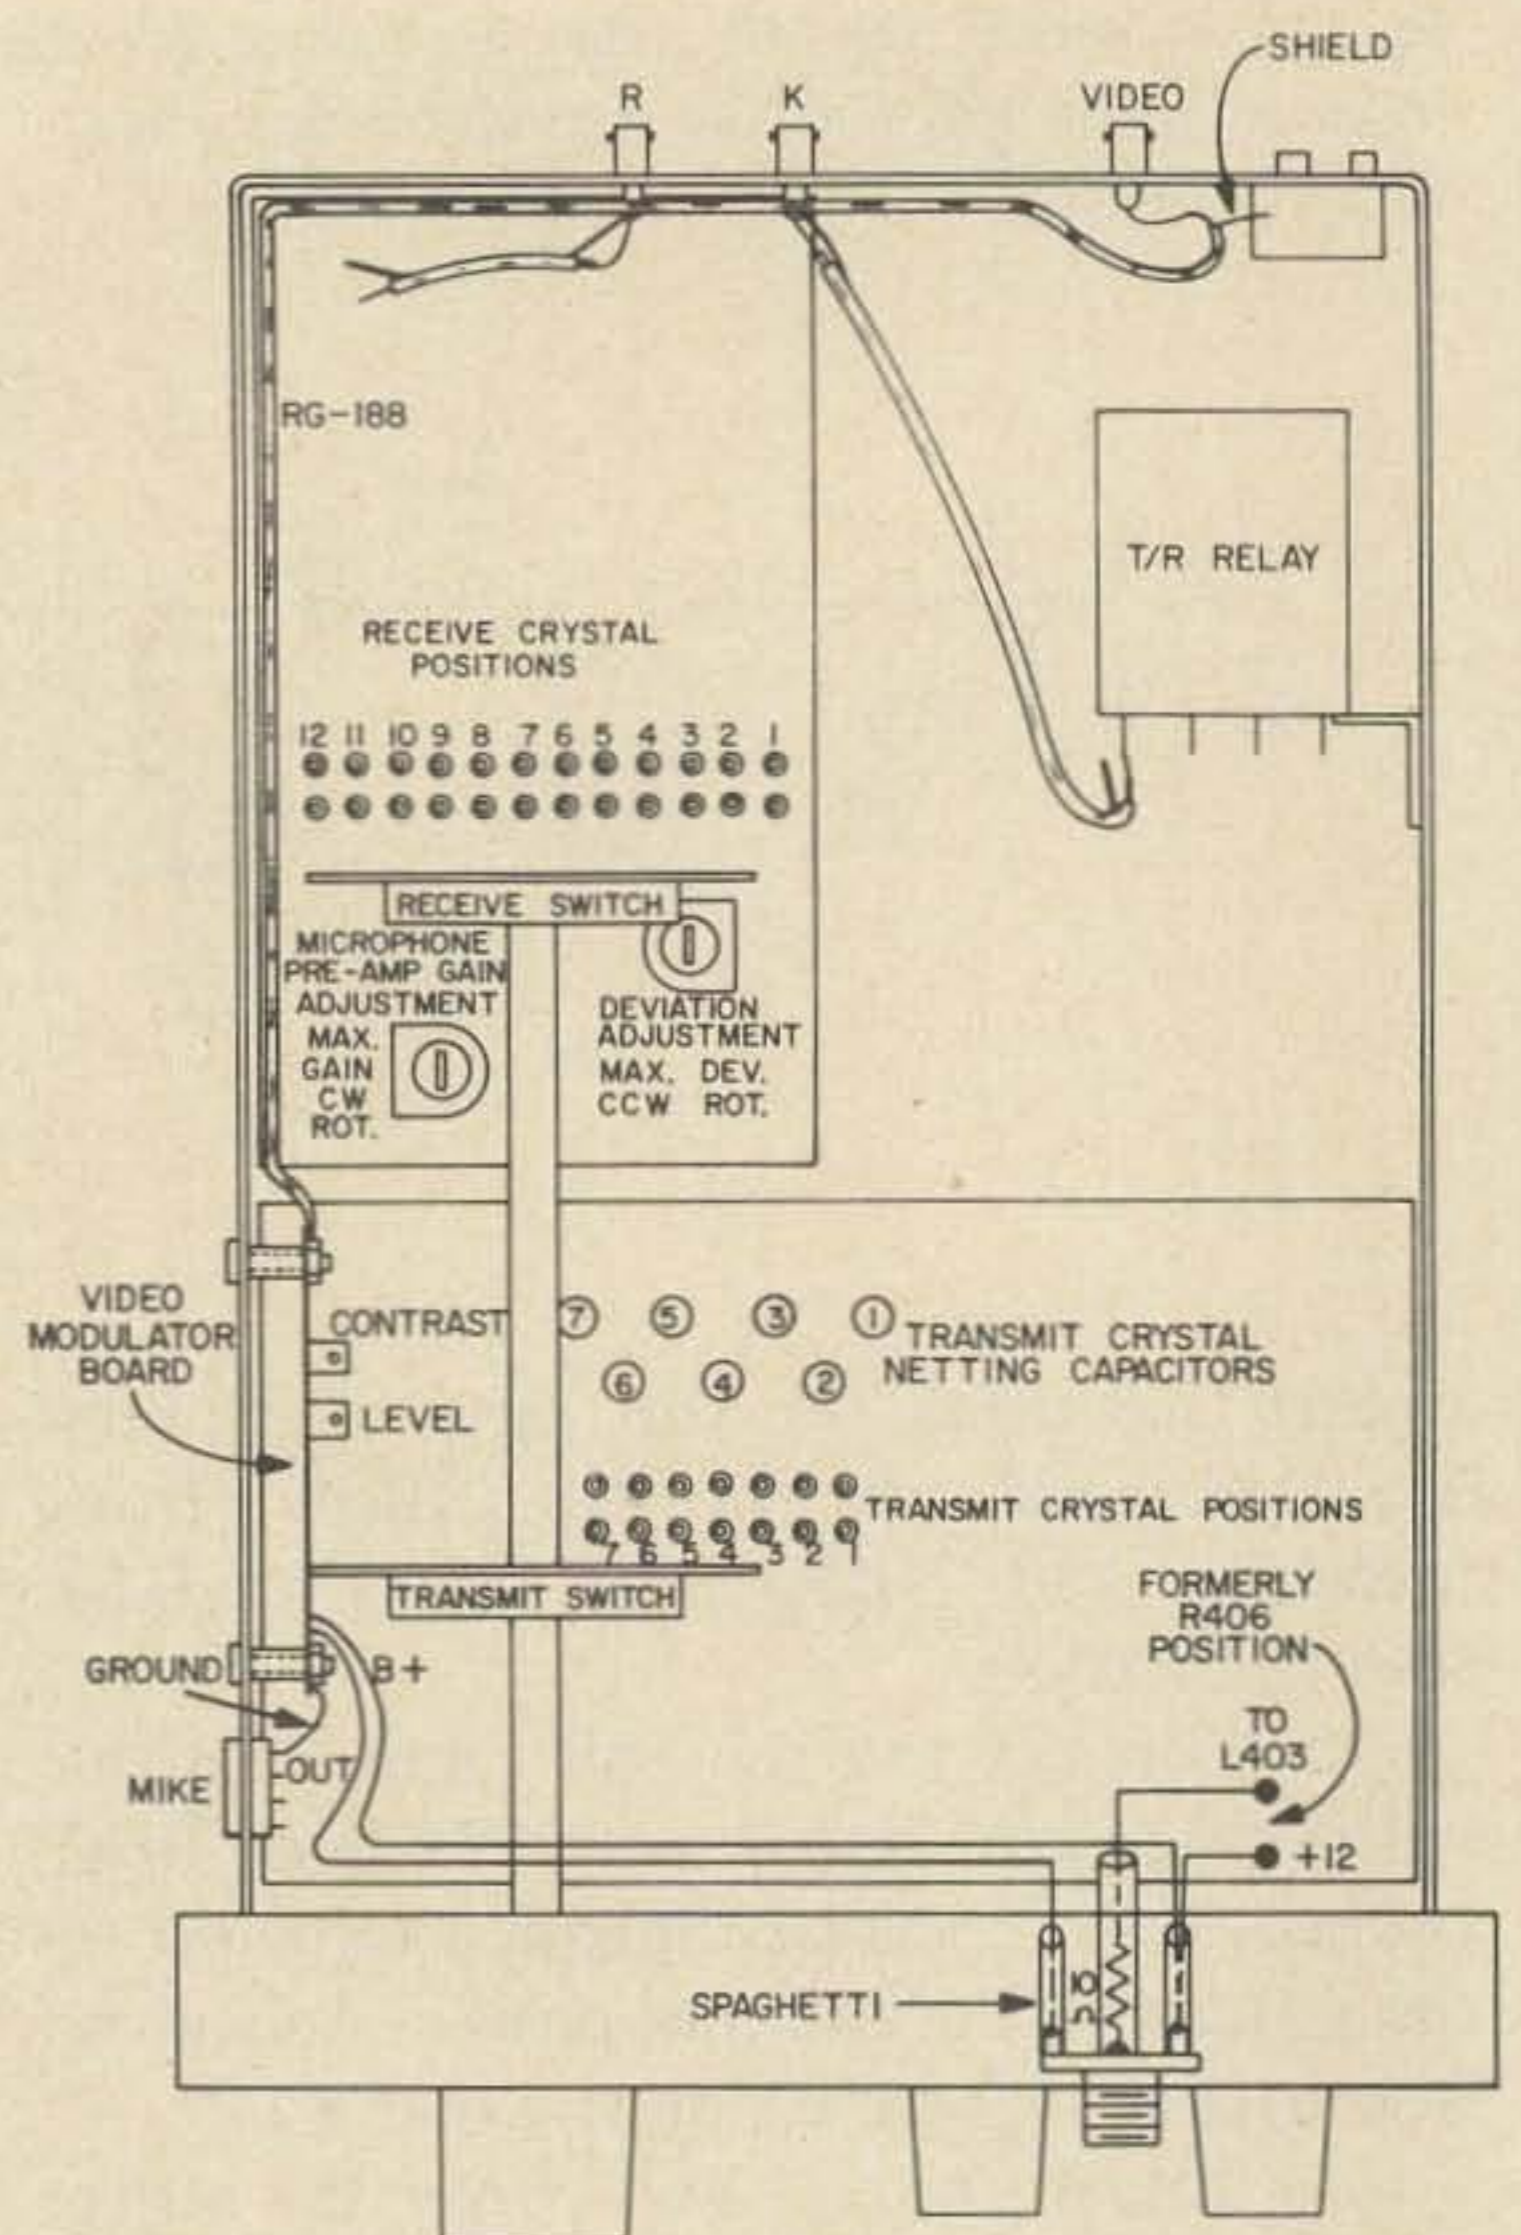

Fig. 12. Modification components layout - top view.
9. Remove speaker. Mount the video modulator board inside the rig on the left side wall (with front of rig facing you), as shown in Fig. 12. Existing holes in the chassis wall are used. Use two 1/2" long flat head #4-40 screws, #4 spacers 1/8" long, lockwashers and nuts. Video modulator board foil faces the chassis wall; pot adjustments facing up. Put a dab of RTV (or
edge of the front wall. Direct the wire-end through the hole located above and between the volume and squelch pots so that it protrudes through the front of the rig. Place a 1/2" piece of spaghetti over this wire and solder it to the miniature switch as shown in Fig. 12. Push spaghetti over contact.